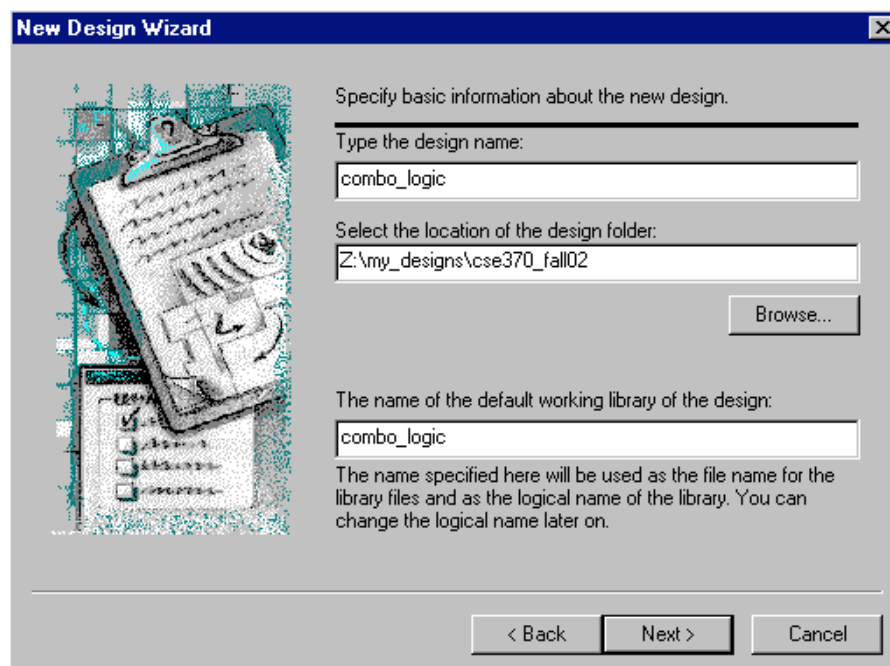

Figure 5
3. In the “Type the design name” field, type a name for your new design. **The name must contain only letters, numbers, and underscores (“\_”), and cannot start with a number (i.e. 4bitadder is invalid, however four\_bit\_adder is valid).** Use descriptive names that do not match file names, other design names, or workspace names. By default, the design directory is under the workspace directory, and the name of the default working library of the design is the same as the design name. Leave these default values alone. **Warning: the directory path should not contain any spaces in it.** Your window should look like Figure 5 with a more descriptive name than “combo\_logic”.